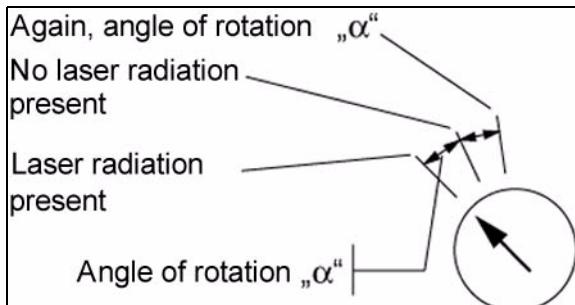

Figure 7.126 Setting the HF power of HG-24
- c) Turn the potentiometer to the right (clockwise) until the laser radiation disappears. The two positions of the potentiometer (laser radiation present/not present) describe the "α" angle of rotation (Figure 7.126).